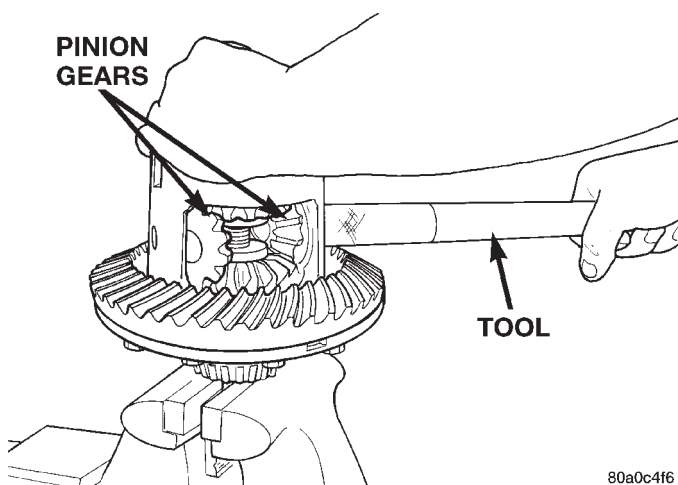

Fig. 62 Pinion Gear Removal
(11) Insert Turning Bar C-4487-4 in case (Fig. 62).